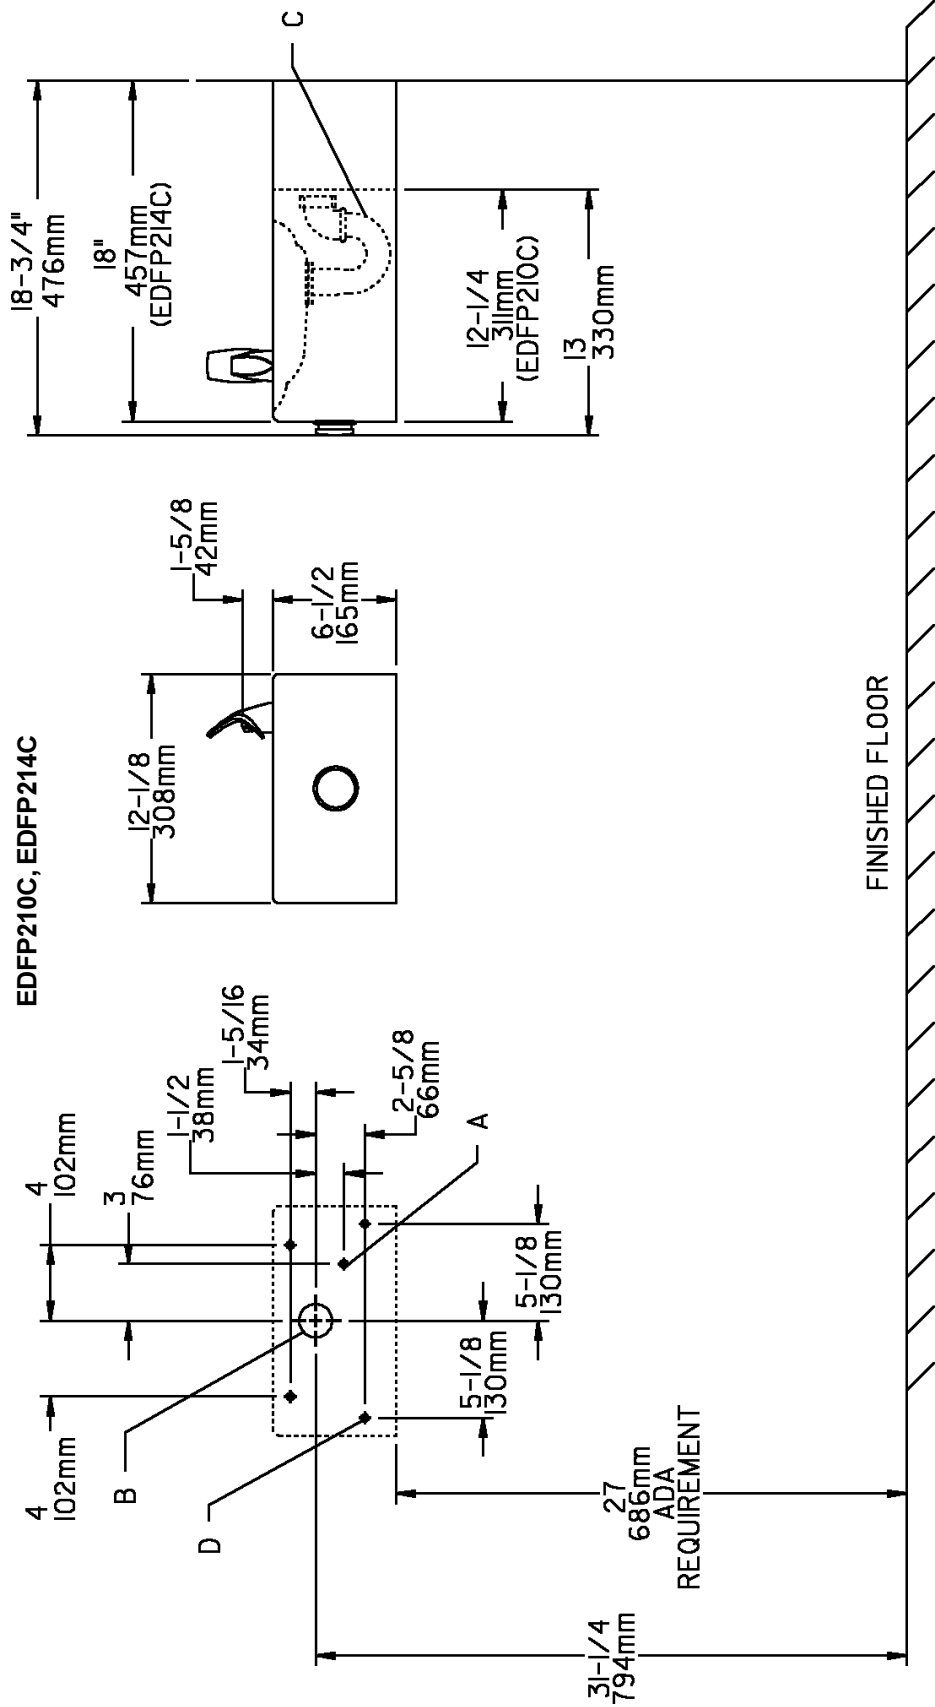

FIG. 3
1. Wall should already be framed for the fountain using the positioning dimensions shown in Figures 3 or 4. Shown dimensions pertain to installation location (framing must support up to 150 lbs. weight). These dimensions are required for compliance with ANSI Standard A117.0.
2. Install rough-in plumbing as shown in Figures 3 or 4. Waste line should extend a minimum of 2" (51mm) through the back panel. Run the supply water inlet line through the back panel. Install a service stop (not provided). Turn on supply water and flush thoroughly.
3. Remove bottom access panel from fountain basin and save the screws. Install the fountain to the back panel and wall using (4) 5/16" x 2" long lag bolts and washers (not provided) through holes in back panel. Tighten securely.
7. Check stream height from bubbler. Stream height is factory set at 35 PSI. If supply pressure varies greatly from this, remove items 3 and 4 and adjust the screw on the regulator (Item 10). Clockwise adjustment will raise stream height and counter-clockwise will lower stream height. For best adjustment stream should hit basin approximately 6-1/2" (165mm) from bubbler.